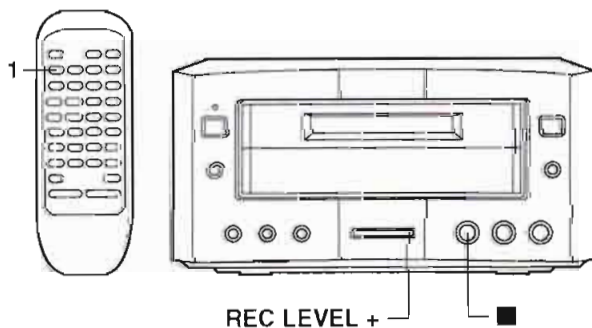

Fig. 11
2. With no MD loaded in the player, simultaneously press ■ button and the REC LEVEL + button and hold them both pressed for at least 2 seconds until "MD TEST" appears in the display. (Refer to Fig. 11.)